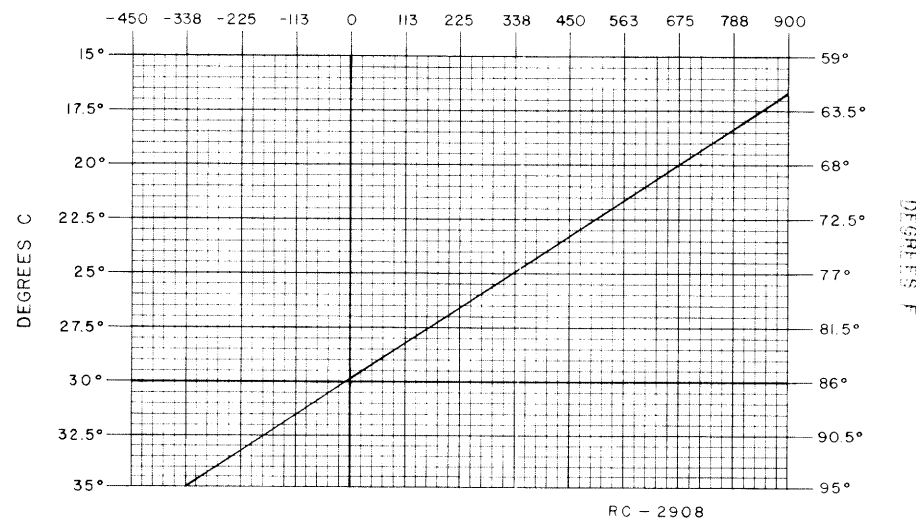

Figure 3 - Crystal Module Frequency Offset Chart
First, check the frequency to determine if any adjustment is required. (Refer to frequency offset chart, Figure 3.) The frequency measurement requires equipment with an absolute accuracy that is 5 to 10 times better than the tolerance to be maintained. When adjusting the frequency, the entire radio should be as near as possible to an ambient temperature of 30 C (86 F).
To set crystal frequency using "beat frequency" method, the temperature should be at 30 C (86 F). If the temperature is not 30 C, then offset the "ON FREQUENCY" signal (at the receiver input), as a function of actual temperature, by the frequency ERROR FACTOR shown in Figure 3.
2. Maintain the radio at 30 C (± 5 C, ± 10 C) and offset the oscillator, as a function of actual temperature, by the frequency error shown in Figure 3.